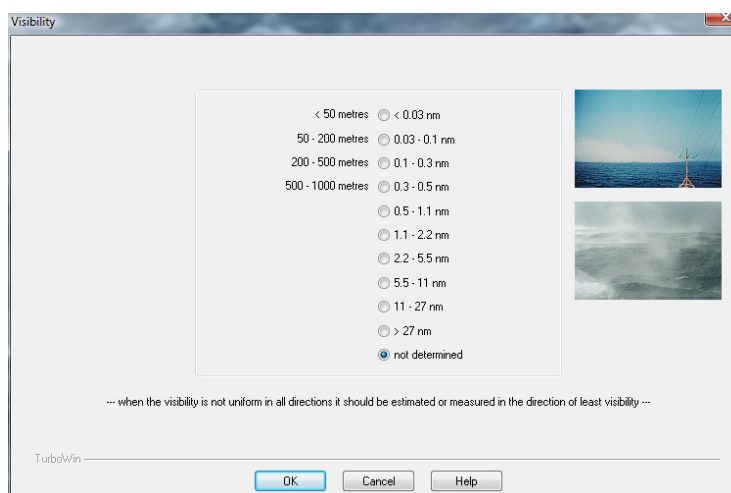

Figure 27. Visibility dialogue box
10.11.2. Horizontal visibility is entered in the dialogue box shown in **Figure 27**.